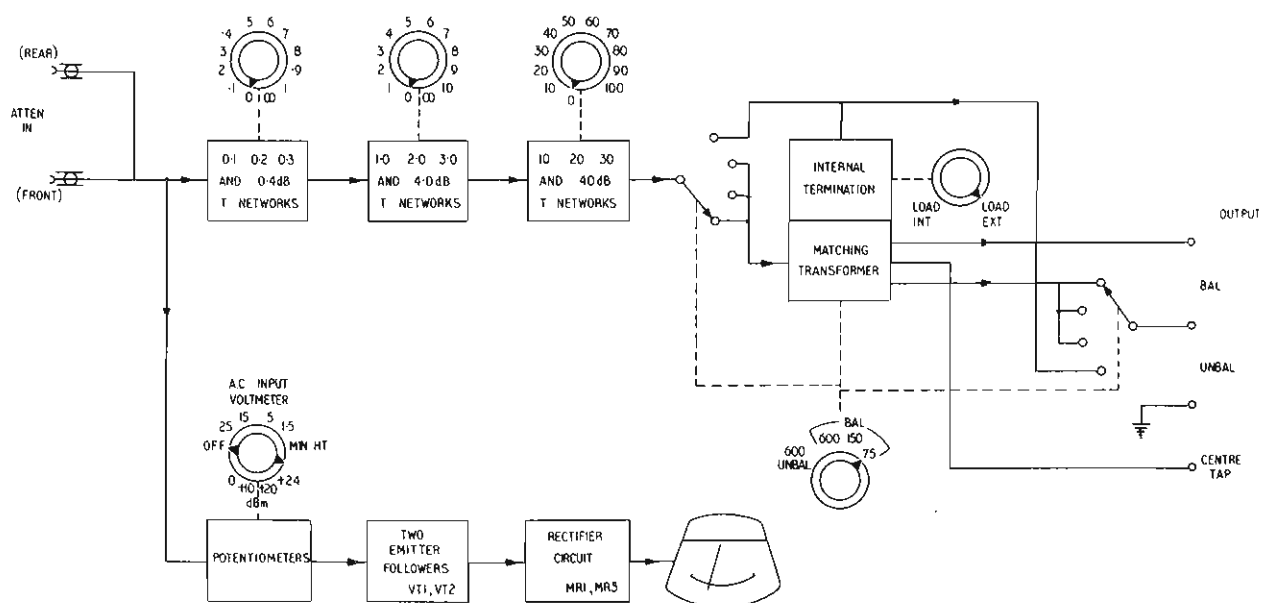

Fig. 2 Block diagram of monitored attenuator
12. The monitored attenuator consists (Fig. 2) of a 111 dB step attenuator, an input voltmeter and an output circuit including a multi-ratio matching transformer.